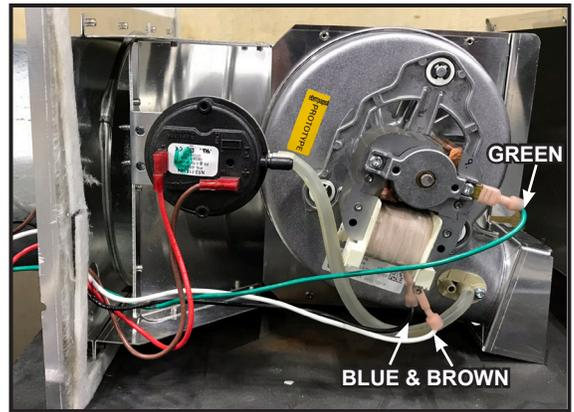

Figure 3.12
- Attach the blue and brown wires from the PVI harness to the fan. Attach the green wire from the PVI harness to the ground connection on the fan. See Figure 3.12.